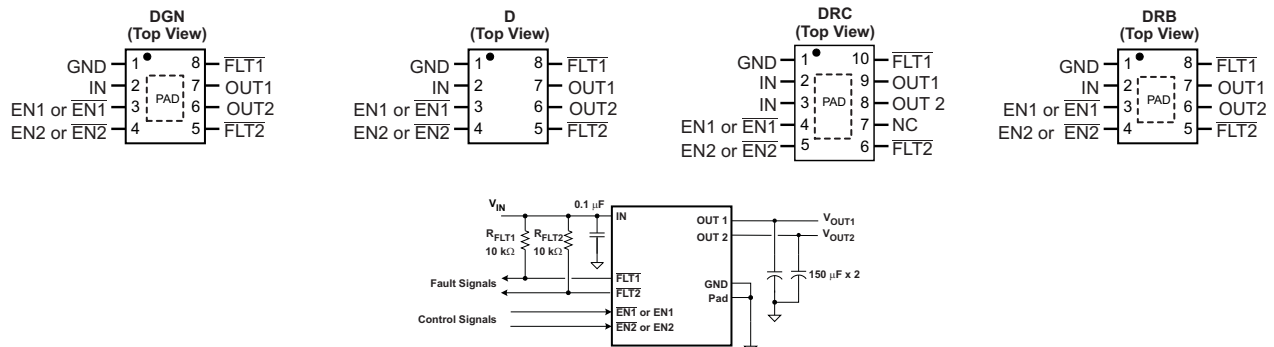

Figure 1. TYPICAL APPLICATION
- (1) Absolute maximum ratings apply over recommended junction temperature range.
- (2) All voltages are with respect to GND unless otherwise noted.
- (3) See INPUT AND OUTPUT CAPACITANCE section.
- (4) V_{OUT} was surged on a PCB with input and output bypassing per Figure 1 (except input capacitor was 22 µF) with no device failure.